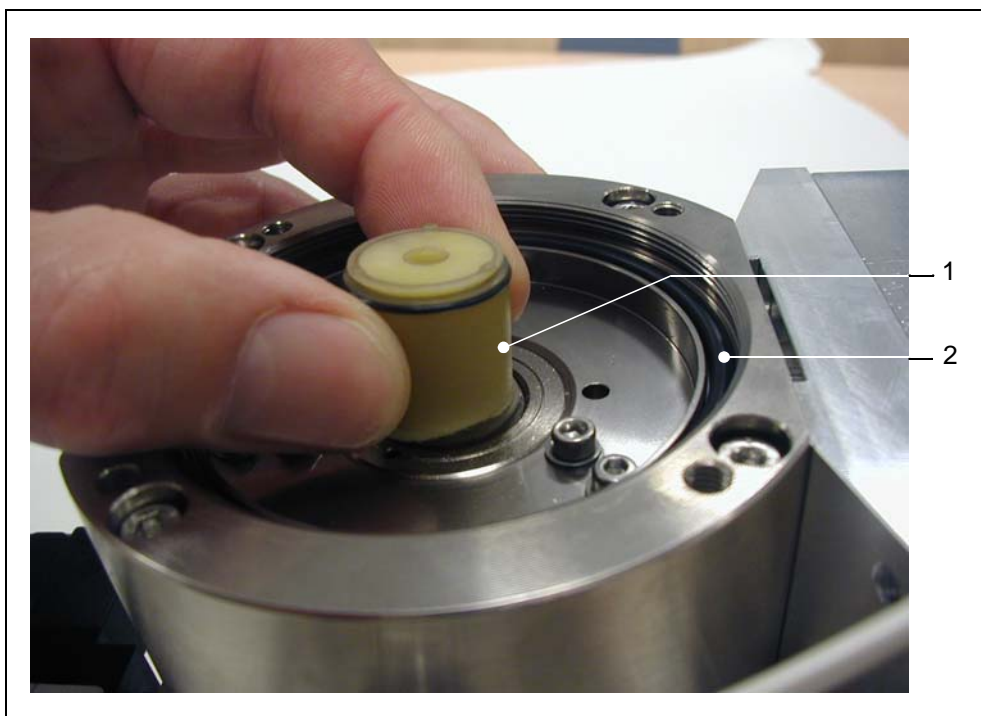

Fig. 7-4 Replace the Lubricant Reservoir
Refer to Fig. 7-4.
- 8 Replace the O seal (Fig. 7-4/2) by a new O-seal. Verify that the new O-ring is inserted in the proper position. An incorrectly inserted O-ring may cause large leaks and the malfunction of the equipment.